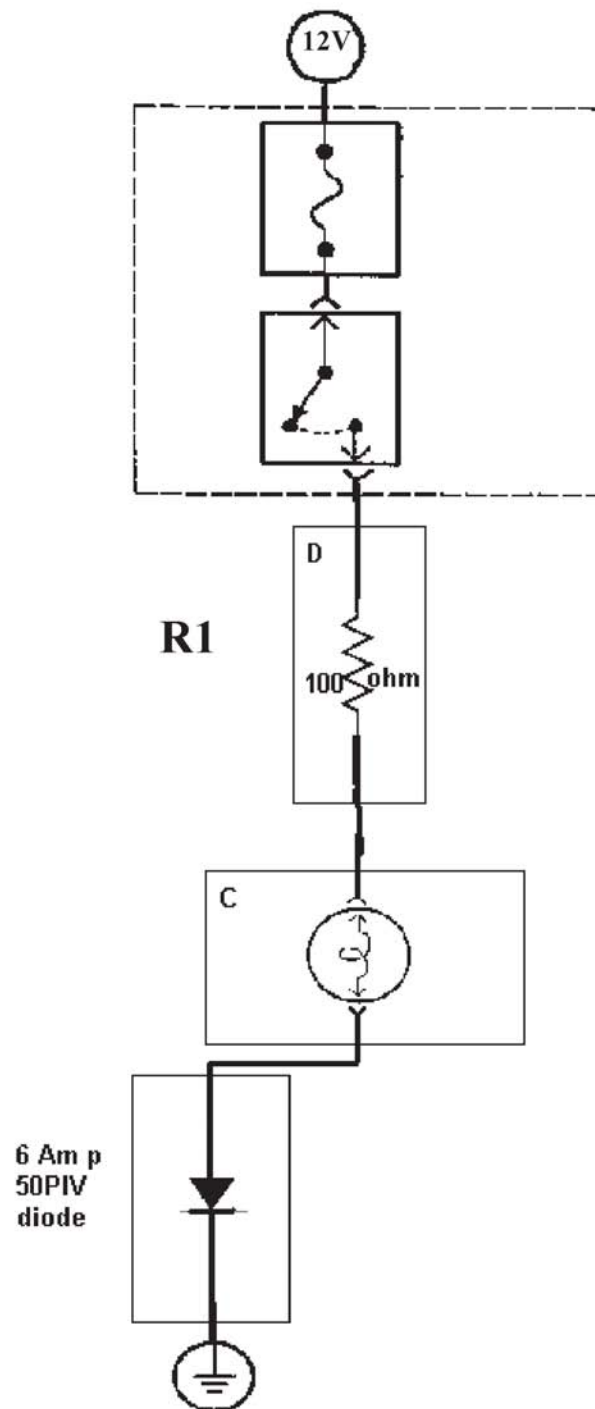

Figure 11-15, Experiment 11-1
6. Now rewire the circuit with the breaker, R1, the small bulb and diode in series as shown in Figure 11-15. **Do not use R2.**